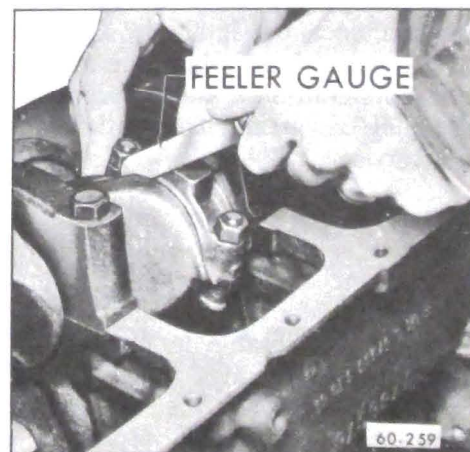

Figure 60-118 - Measuring Connecting Rod Side Clearance
11. Measure all connecting rod side clearances (see specifications), between the connecting rod cap and side of crankpin. See Figure 60-118.